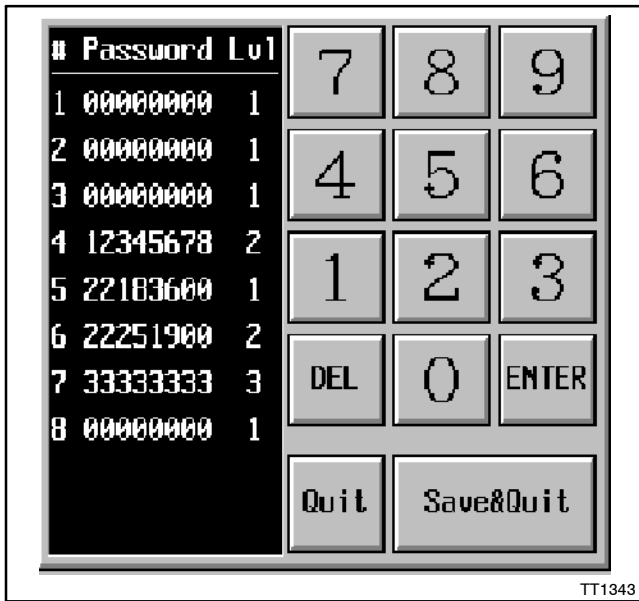

Figure 12 Password Table (with sample passwords)
6. Press the PWD Table button to change the password. Change the password for level 1 access to prevent unauthorized users from unlocking the setup or starting a test. See Figure 12. See Section 2.6.2 for more information about level 1 and level 3 passwords.